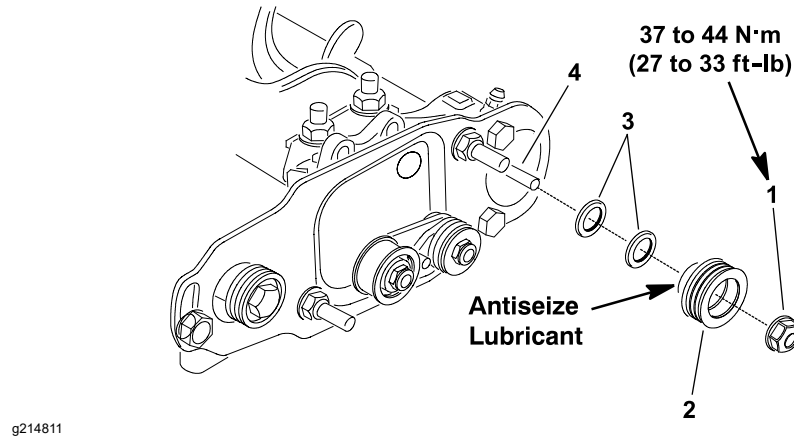

Figure 203
- B. If necessary to align pulleys, remove driven pulley from brush shaft and add or remove flat washer(s) until drive and driven pulleys are correctly aligned (Figure 203).